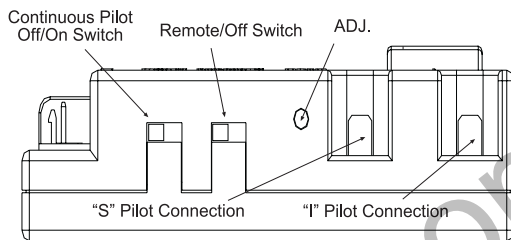

Figure 40 - Gas Module Right Side
1. There is a switch located on the right side of the module that reads CONTINUOUS PILOT ON/OFF. This switch selects the pilot's mode of operation (Figure 40).